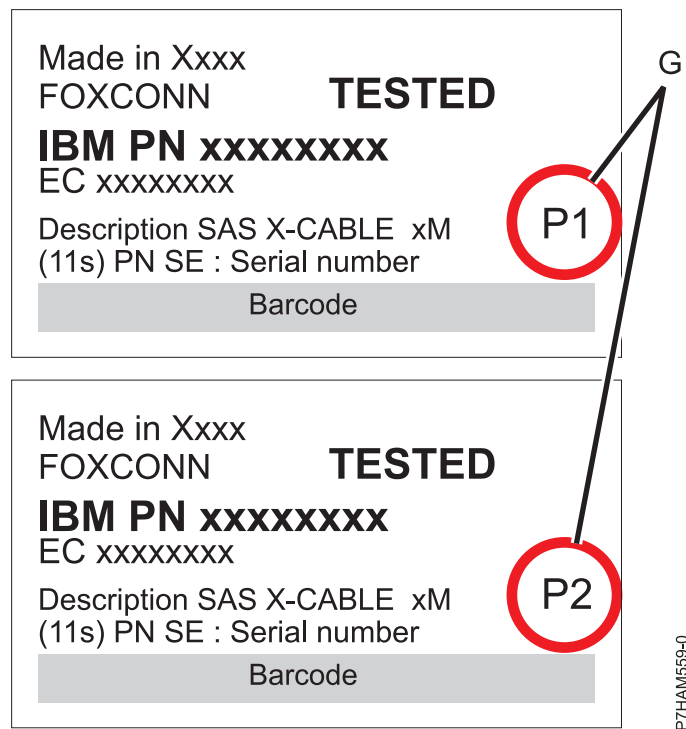

Figure 34. Labels for SAS adapter cables showing P1 and P2 identifiers
- The cable that plugs into independent SAS adapter 1 (C) contains a label with the P1 identifier (G), as shown in Figure 34 on page 30. This adapter does not have access to any other independent adapter and has access only to drive bays D1 - D6.
- The cable that plugs into independent SAS adapter 2 (D) contains a label with the P2 identifier (G), as shown in Figure 34 on page 30. This adapter does not have access to any other independent adapter and has access only to drive bays D7 - D12.
- The cable that plugs into independent SAS adapter 3 (E) contains a label with the P1 identifier (G), as shown in Figure 34 on page 30. This adapter does not have access to any other independent adapter and has access only to drive bays D13 - D18.
- The cable that plugs into independent SAS adapter 4 (F) contains a label with the P2 identifier (G), as shown in Figure 34 on page 30. This adapter does not have access to any other independent adapter and has access only to drive bays D19 - D24.